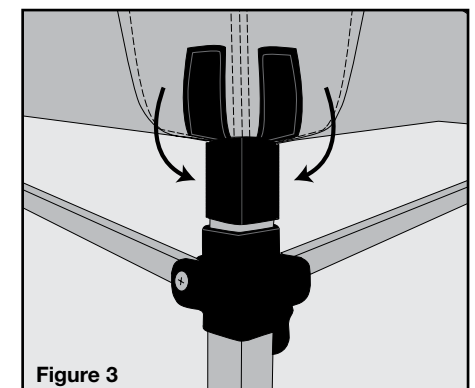

Figure 3
2. Now secure the canopy to the gazebo by attaching the velcro points at the top of the legs as indicated in Figure 3.